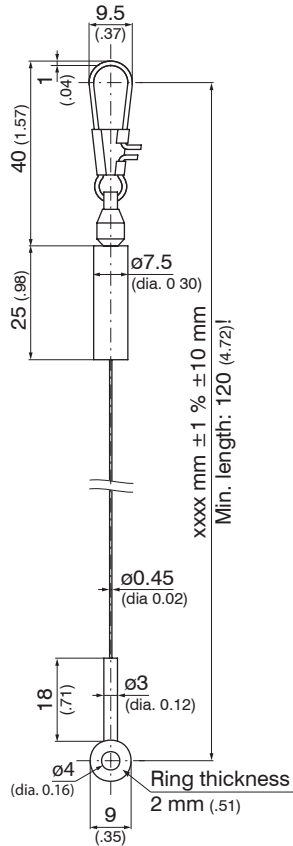

Fig. 22 Wire extension WE-xxxx-CLIP, dimensions in mm (inches), not to scale
- WE-xxxx-CLIP Wire extension with wire clip, see Fig. 22, wire length in millimeters for xxxx, max. 10.000 mm (33 ft)